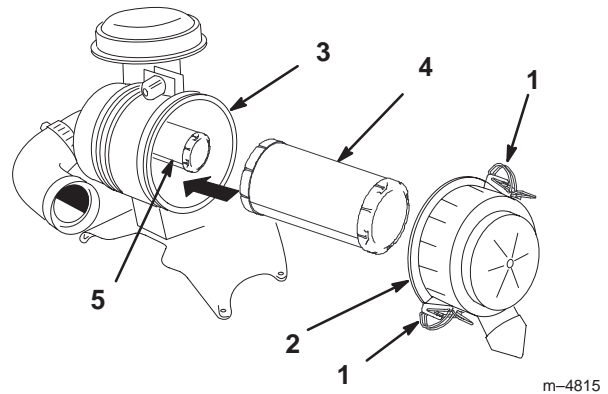

Figure 39
3. Release the latches on the air cleaner and pull the air cleaner cover off of the air cleaner body (Fig. 39).
5. Gently slide the primary filter out of the air cleaner body (Fig. 39). Avoid knocking the filter into the side of the body. Do not remove the safety filter, unless you intend to replace it as well.
2. If the safety filter is being replaced, carefully slide it into the filter body (Fig. 39).
3. Carefully slide the primary filter over the safety filter (Fig. 39). Ensure that it is fully seated by pushing on the outer rim of the filter while installing it.
4. Install the air cleaner cover with the side indicated as **UP** facing up and secure the latches (Fig. 39).